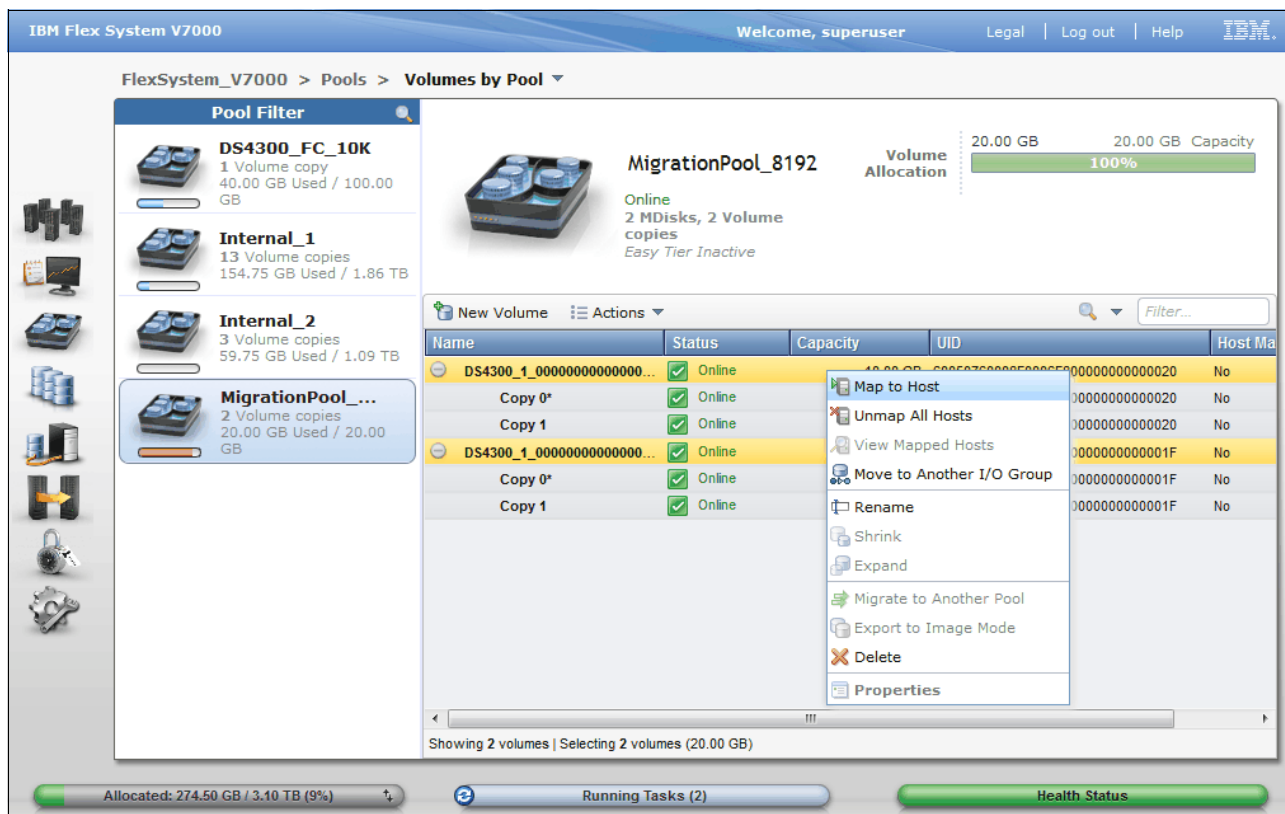

Figure 7-28 After Migration start - Map to host
1. Figure 7-28 shows how to navigate to **Pools** → **Volumes By Pool** from where we locate the volume being migrated. Right-click the volume and click **Map to Host**. The same function can be done by selecting the volume and, from the **Actions** menu, select **Map to Host**.